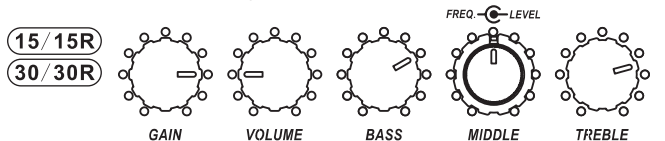

Fig. 14
- 8) Make adjustments as described in steps 2)-5). Try out the settings shown in the illustration, and learn how the controls affect the sound. Fig. 14